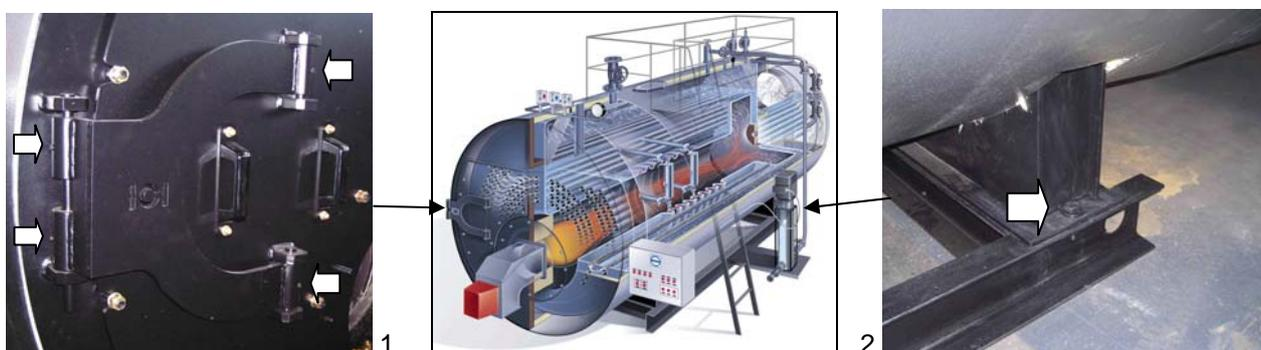

Fig. 8
- Loosen the anti vibration bolts which are fitted on the front doors hinges (1 Fig. 8) before opening the doors.
- **Remove the holding bolts from the rear leg of the boiler base (2 Fig. 8) after positioning the boiler and in any case before first start-up, in order to allow boiler expansion during operation.**